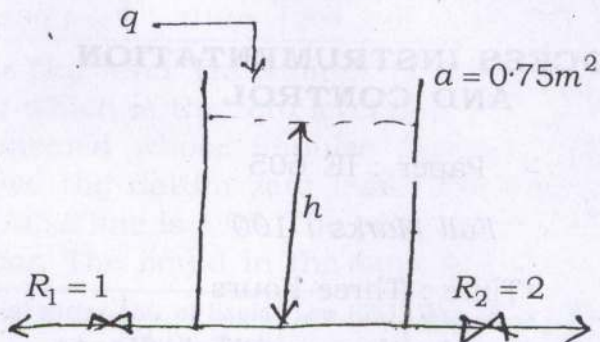

Figure : 2
- (b) Derive the transfer function $H(s)/Q(s)$ for the liquid level system shown in Figure : 2 [H and Q are the deviation variables in 'h' and 'q' respectively].